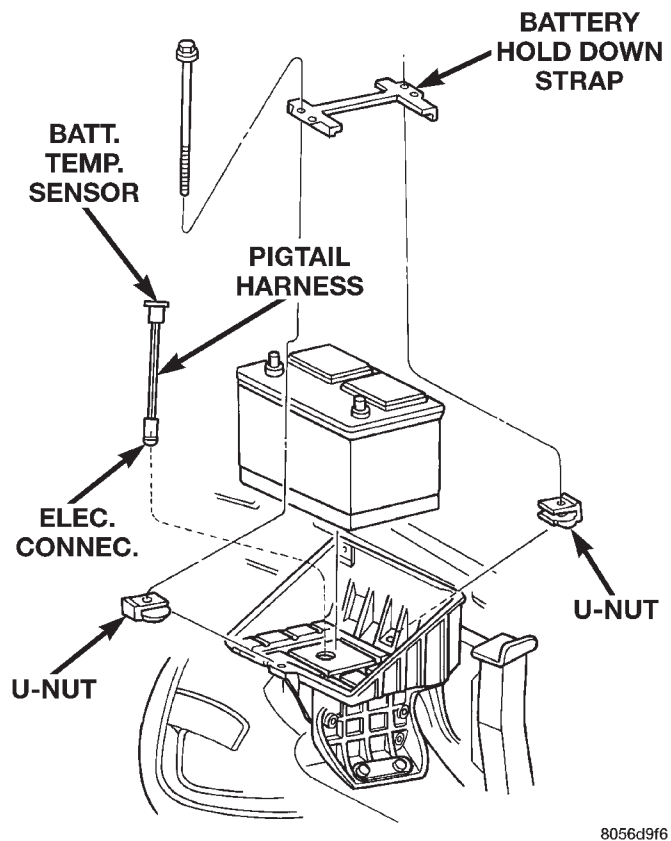
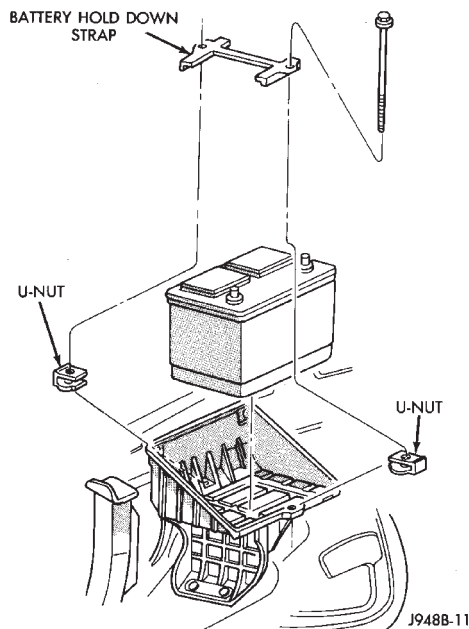

Fig. 18 Left Battery Holddowns
Fig. 19 Right Battery Holddowns - Diesel Engine
(4) Remove the battery holddowns and remove the battery from the vehicle (Fig. 18) or (Fig. 19).